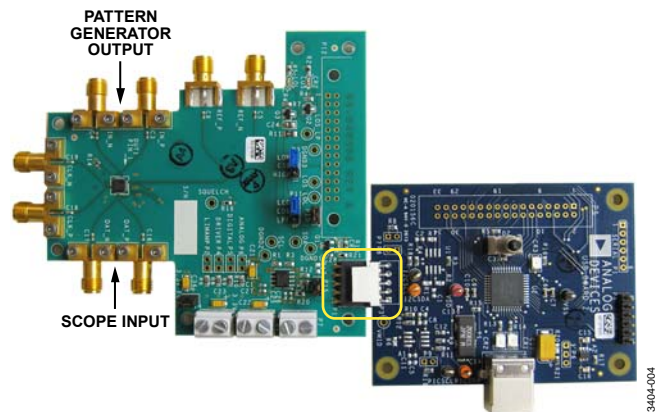

Figure 4. Connect the Evaluation Board and the Adaptor
3. Connect P3 of the adaptor board to P1 of the evaluation board directly, as shown in Figure 4 (circled in yellow).
4. Connect a pattern generator output to the evaluation board IN\_P and IN\_N connectors (see Figure 4).
5. Connect a scope to the evaluation board DAT\_P and DAT\_N connectors (see Figure 4).